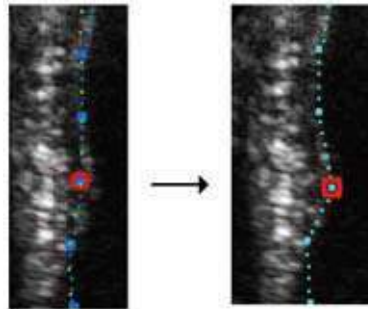

Figure 13-115. Selected anchor point on the inner border trace
2. If required, move the Trackball cursor over the border trace, select an anchor point (red circle), press SET and correct the trace by dragging the anchor point to a new location (Figure 13-115 on page 13-249). The shape of the border trace will update accordingly.